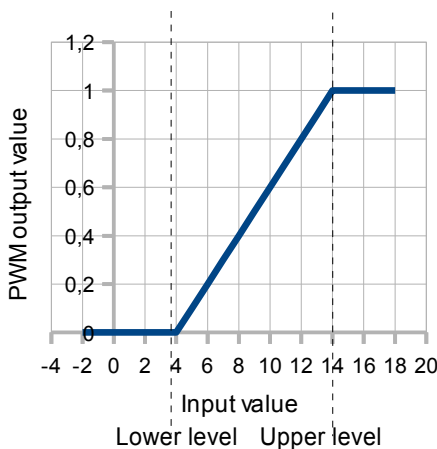

Fig. 7.72. Input-output characteristic of signal in PWM mode for parameters: **Lower level=4**, **Upper level=14**
- **Lower level** and **Upper level** - by setting these parameters range is defined within which the change width of pulse depending on the source signal; below this range the signal is zero (zero width) and above this range the signal is completely filled (Fig. 7.72),